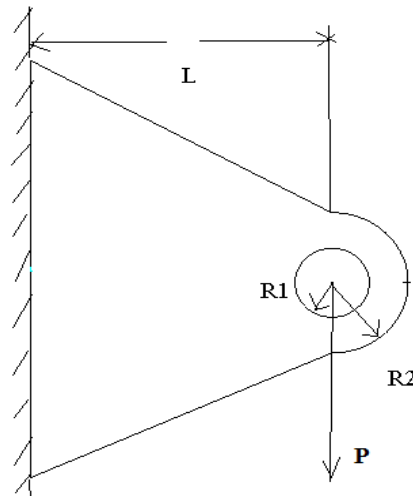

Figure 2.2 Bracket Design 2
2. Figure 2.2 shows a modified horizontal positioning of the bracket which is rigidly attached on the left side. Assume that the material is isotropic. Show a representative finite-element mesh with loading and boundary conditions to perform the stress analysis.